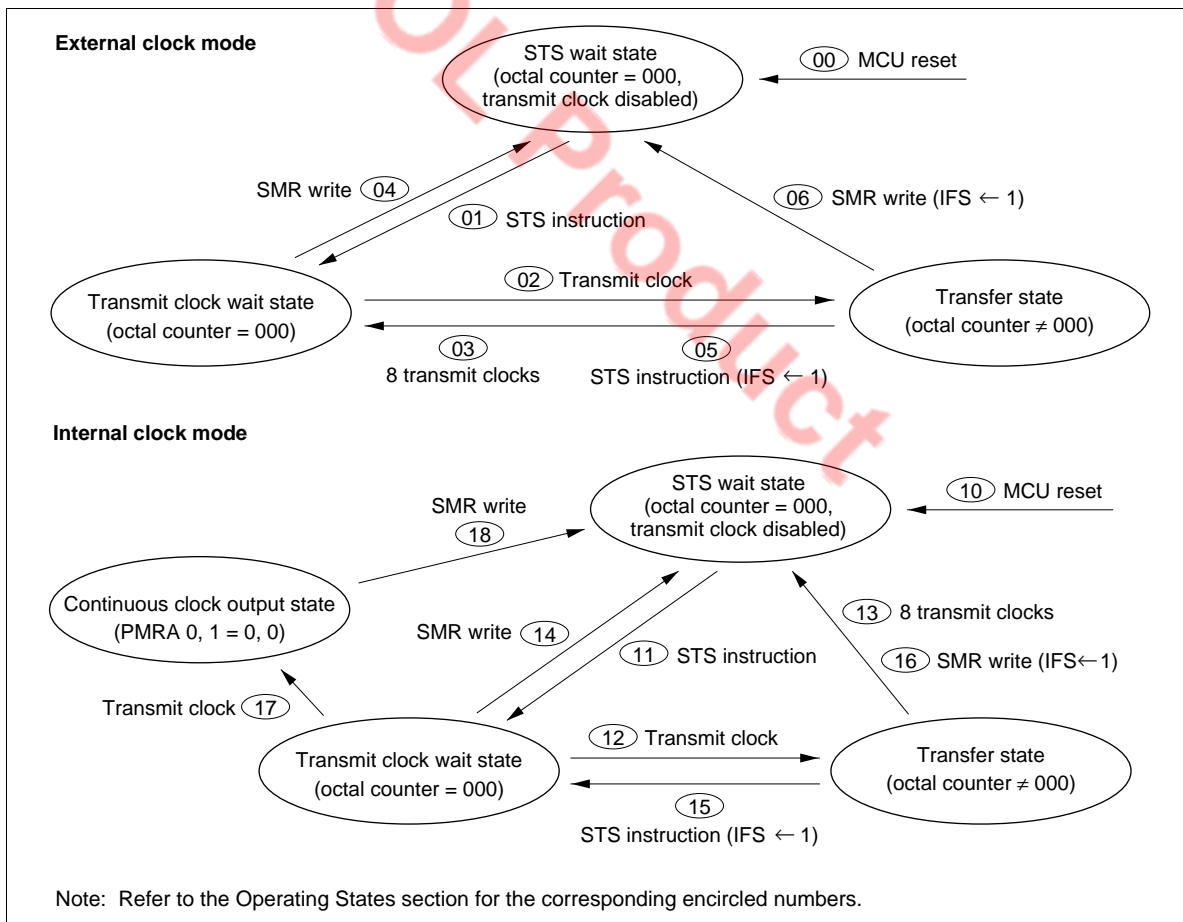

Figure 59 Serial Interface State Transitions
Operating States: The serial interface has the following operating states; transitions between them are shown in figure 59.
- **STS wait state:** The serial interface enters STS wait state by MCU reset (00, 10 in figure 59). In STS wait state, the serial interface is initialized and the transmit clock is ignored. If the STS instruction is then executed (01, 11), the serial interface enters transmit clock wait state.
- **Transmit clock wait state:** Transmit clock wait state is the period between the STS execution and the falling edge of the first transmit clock. In transmit clock wait state, input of the transmit clock (02, 12) increments the octal counter, shifts the serial data register, and puts the serial interface in transfer state. However, note that if continuous clock output mode is selected in internal clock mode, the serial interface does not enter transfer state but enters continuous clock output state (17).